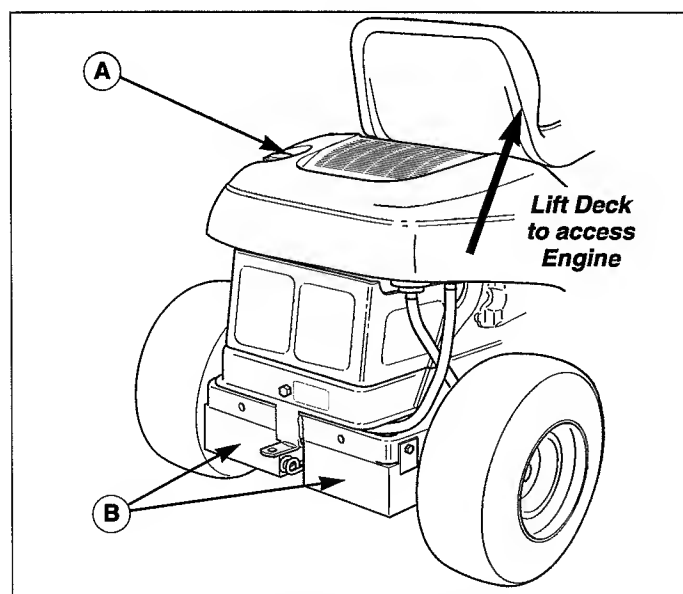

Figure 2. Engine Access & Rear Weights
- Make certain rear counterweights (see Figure 2) are installed at all times, and use extra caution if you will be operating the unit on sloping ground.